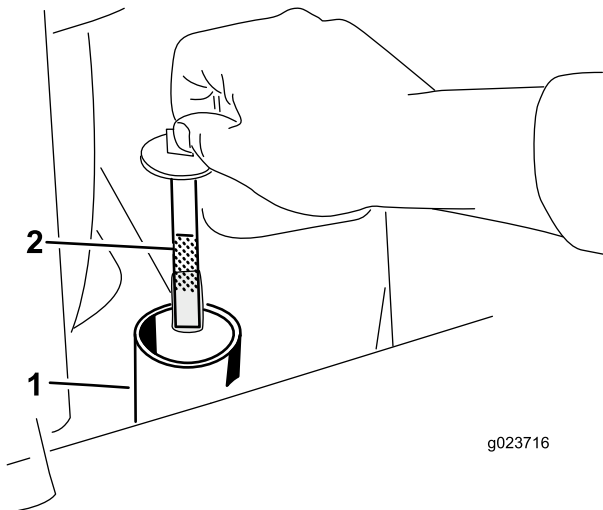

Figure 13
5. Remove the cap from the filler neck and check the fluid level on the dipstick (Figure 13).